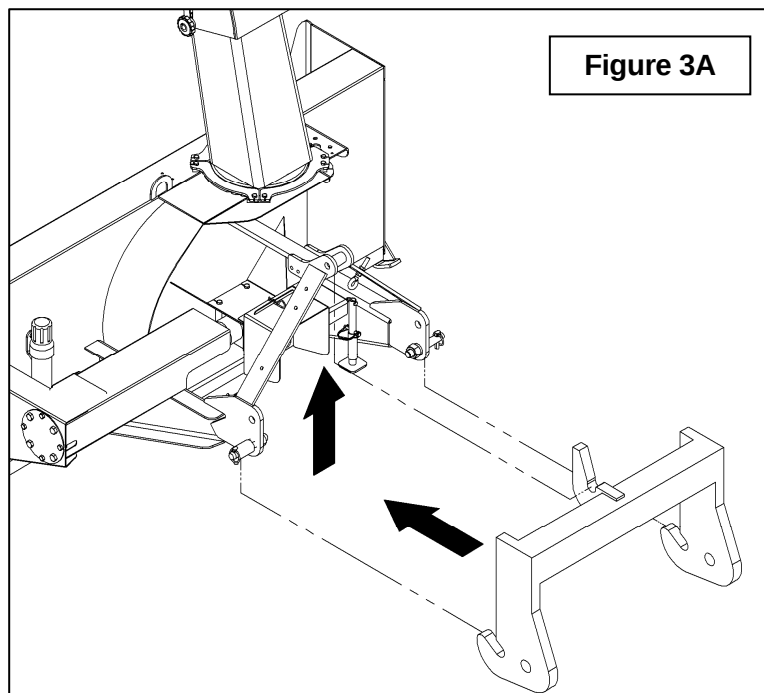

Figure 3A
7. **Figure 3A:** Make sure the quick hitch latches are closed. Lower the three point so the quick hitch hooks are lower than the hitch pins of the snowblower. Move back slowly the tractor toward the snowblower until hooks are below the hitch pins of the snowblower. Raise the three point until the quick hitch latches close on the snowblower hitch pins to lock the system.